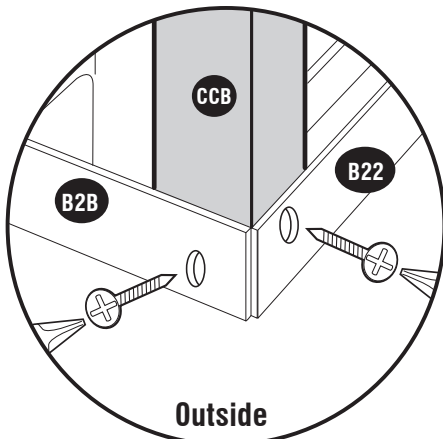

fig. 1
12. From outside back of the shed, detach the base angles from the **corner column (CCB)** at both corners and remove the corner columns. See **fig.1**. From inside detach the (B21) & (B22) base angles from **middle column (CMB)**. See **fig.2**.